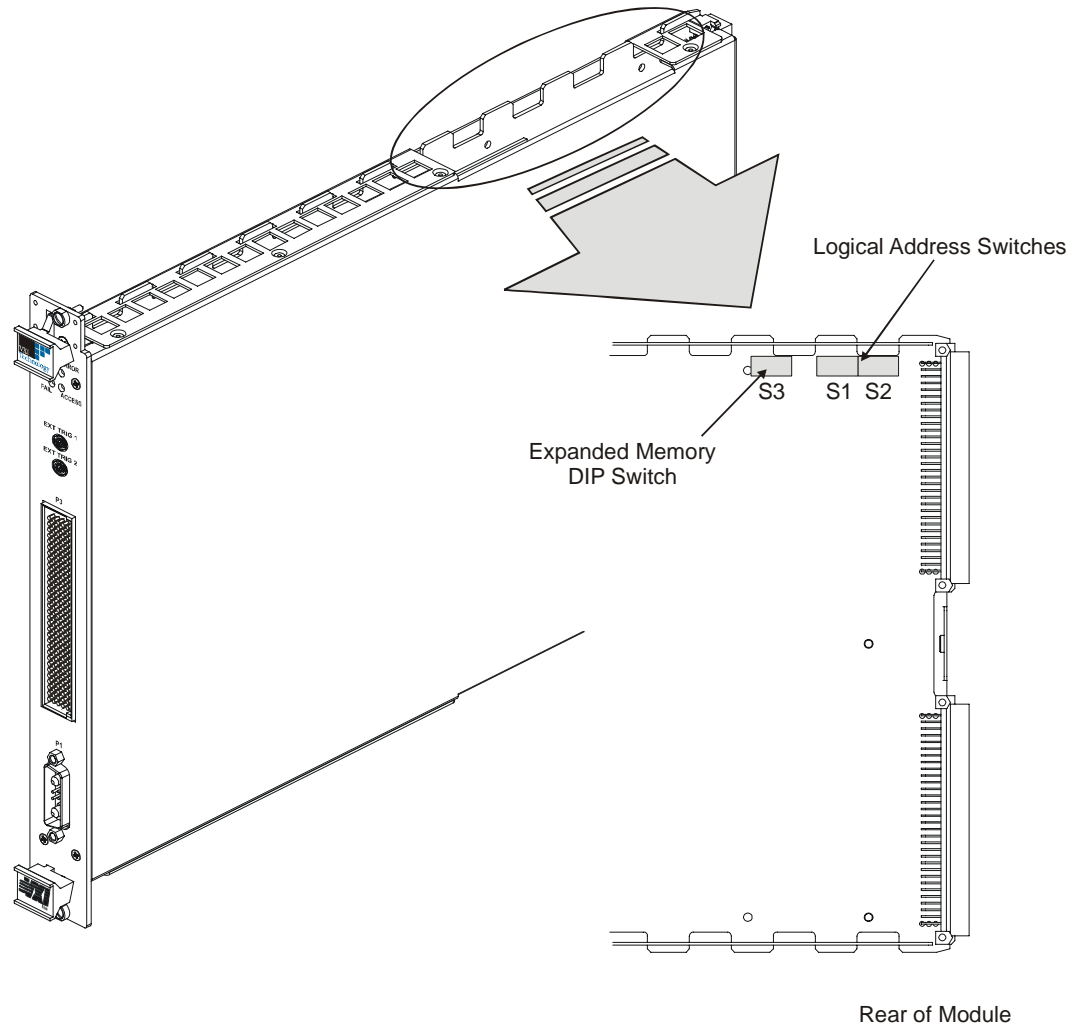

FIGURE 1-1: SWITCH LOCATIONS
The VT1802 has three configurable switches, all located at the top of the unit near the rear connectors. The two rotary dials (S1 and S2) located closest to the rear of the interface card set the logical address (LA) for the module, while the two-position DIP switch (S3) sets the extended memory space for the module to either A24 or A32. Figure 1-1 below shows the location of these switches and the following paragraphs explain how they are configured.
The *extended memory space* of VT1802 base units is set by a DIP switch that is located on the top edge of the interface card (see Figure 1-1). Position 1, located to the left on the DIP switch, selects between A24 and A32 memory address space. In the UP position, the VT1802 will request A24 space. In the DOWN position (factory default), the VT1802 will request A32 space. (Position 2 is not currently used.) The selection of the address space should be based upon the memory allocation requirements of the system that the VT1802 module will be installed. The amount of memory allocated to a VT1802 module is independent of the address space selected.